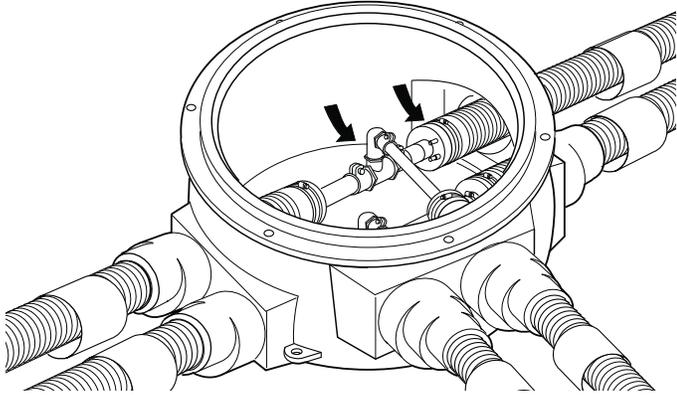

Figure 4-55: Final connections
4. Insert all pipes into the Connection Vault and make all service pipe connections, as shown in **Figure 4-55**; then perform a pressure test.